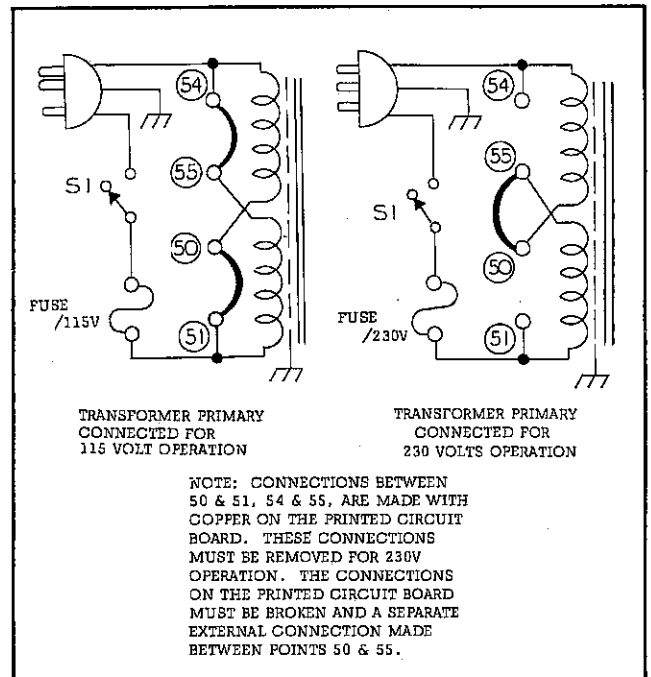

Figure 2-3. Primary Connections
(See Figure 2-3)
- b. Break the copper between 54 and 55 and also between 50 and 51 on the printed circuit board. These are shown in Figure 2-3, and are labeled on copper side of printed circuit board.